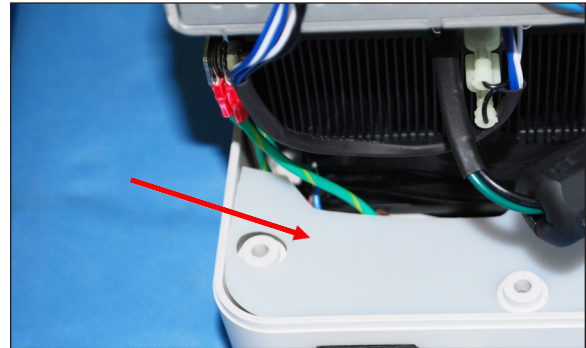

Figure 95 - Step 3 Plastic power inlet shroud
3. Remove the power inlet plastic shroud (Figure 95).